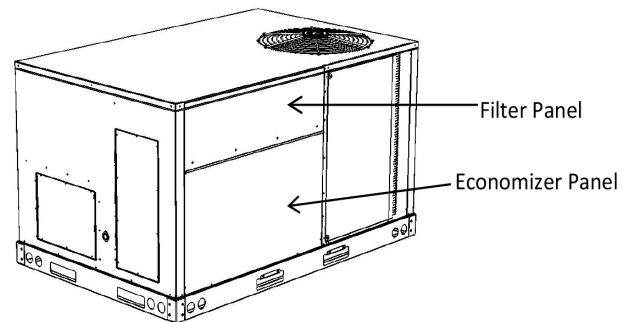

FIGURE 1 - REMOVE PANELS
2. Take Filter Access Panel off of unit. Keep for installation back on to unit when economizer installation is complete. See Figure 1.
3. Remove lower panel from return air section of unit. See Figure 1. This panel can be discarded. Keep removed screws for use in later step.